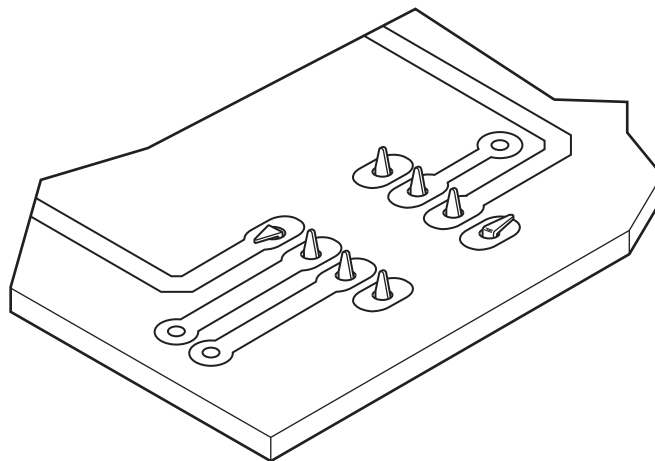

Fig. 12.5
- (ii) Fig. 12.5 shows the solder side of a printed circuit board with an IC holder ready to be soldered in place.